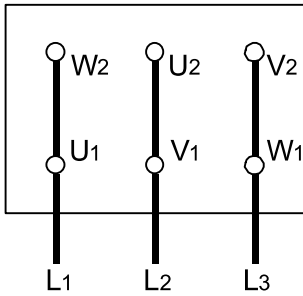

Fig. 9a.  $\Delta$  - connection
- The mains connection on the tagboard depends on the nominal power of the motor, the power supply and the type of connection. The necessary connection of the bridges in the terminal box is shown in the following (Table 1. and Fig. 9a, 9b, 9c).